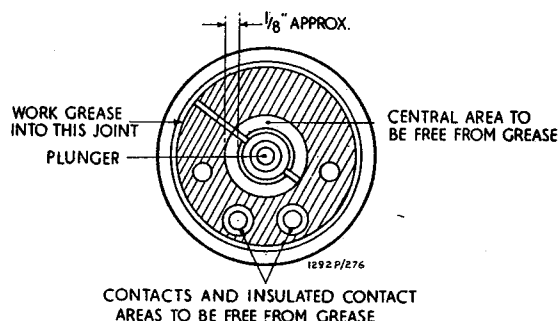

Fig. 5 Solenoid greasing details
- 17.12.3 Refer to fig.5 and coat each solenoid mounting face with grease MS-4.